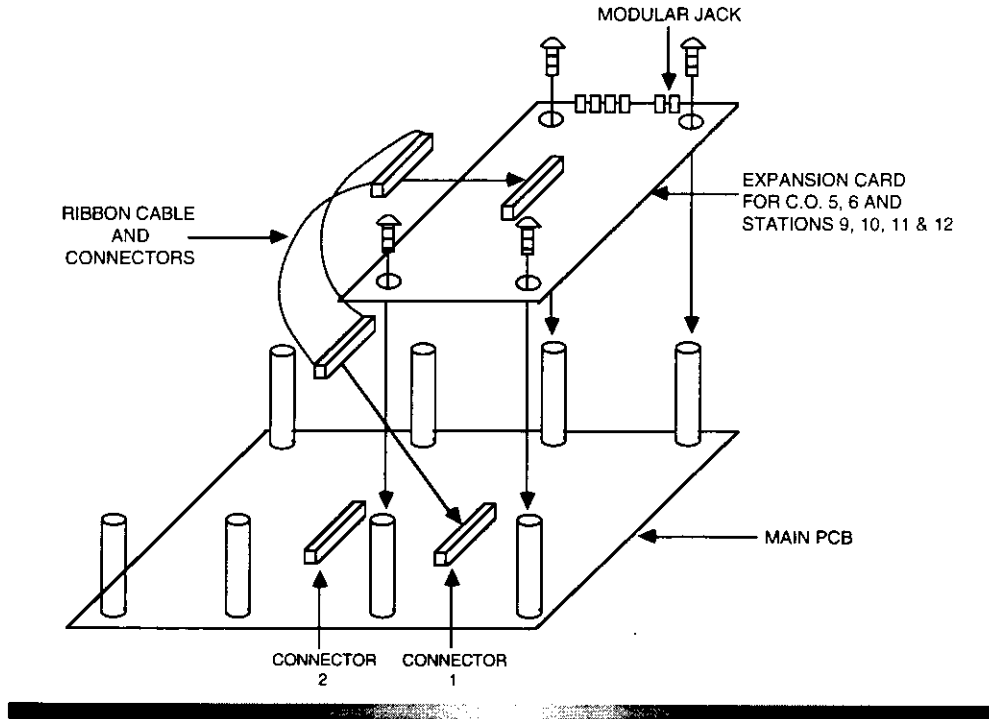

FIGURE 13
5. In order to connect Station Numbers 9 through 16, expansion cards MT-STU-A, B or C must be installed. See Figure 13.